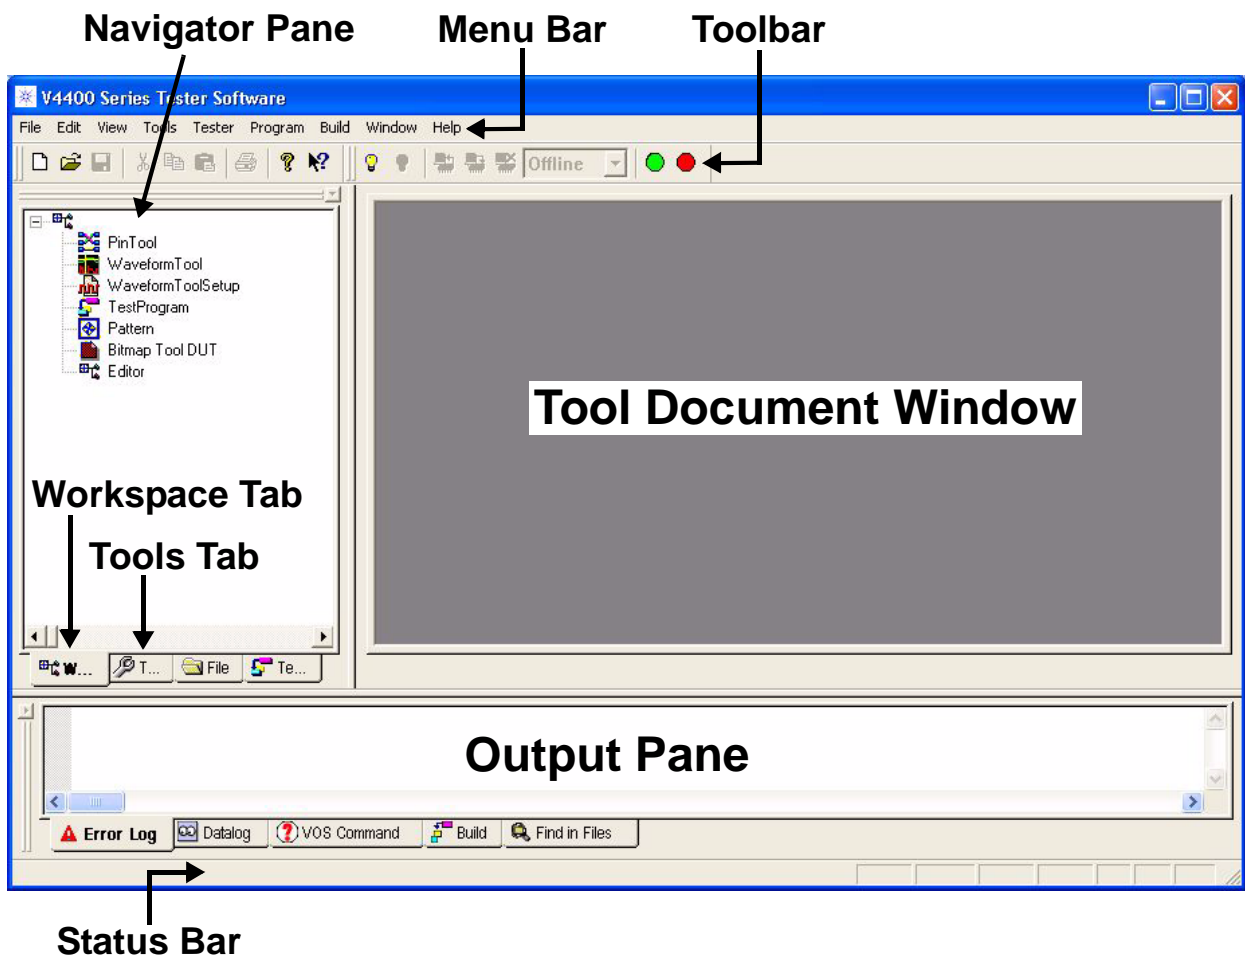

Figure 4-37. V4400 Series Tester Software IDE Main Window
- 1 Selecting  > All Programs > Versatest Test System Software > Integrated Development Environment displays the default V4400 Series Tester Software main window that contains the Integrated Development Environment or IDE (similar to Figure 4-37). The Menu bar and Toolbar are context sensitive and change for the selected active tool or document. The menus and Toolbar show and enable only the commands and buttons that are relevant to the tool or document you select.